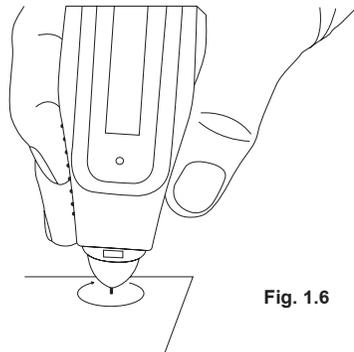

Fig. 1.6
- b. Hold the probe pen with pen tip forming the right angle (90 degree) with an oxidation removal. Gently move in a circular motion without retracting the tip (**Fig. 1.6**).